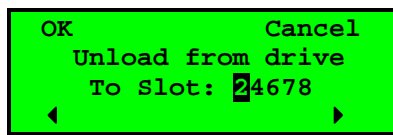

Figure 4.12. Unload from Drive.
1. From the default display, press the menu button and select "Unload from Drive" from the main menu. A screen like Figure 4.12 appears displaying the available slots.